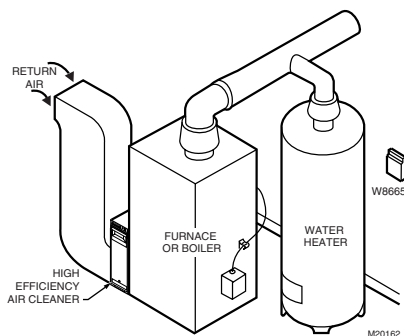

Fig. 1. W8665 mounting location.
3. Mount the W8665 RF Receiver Module near the HVAC equipment on a wall. See Fig. 1.